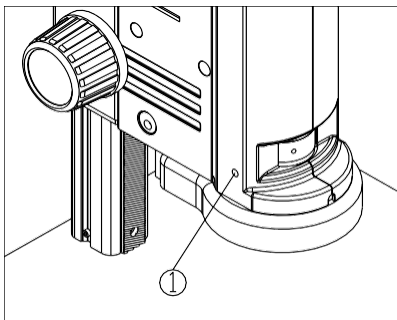

Fig. 9
- 1) If using the same magnification repeatedly, tighten the magnification lock-screw ① with the hex wrench to hold that zoom magnification position. (See Fig. 9)